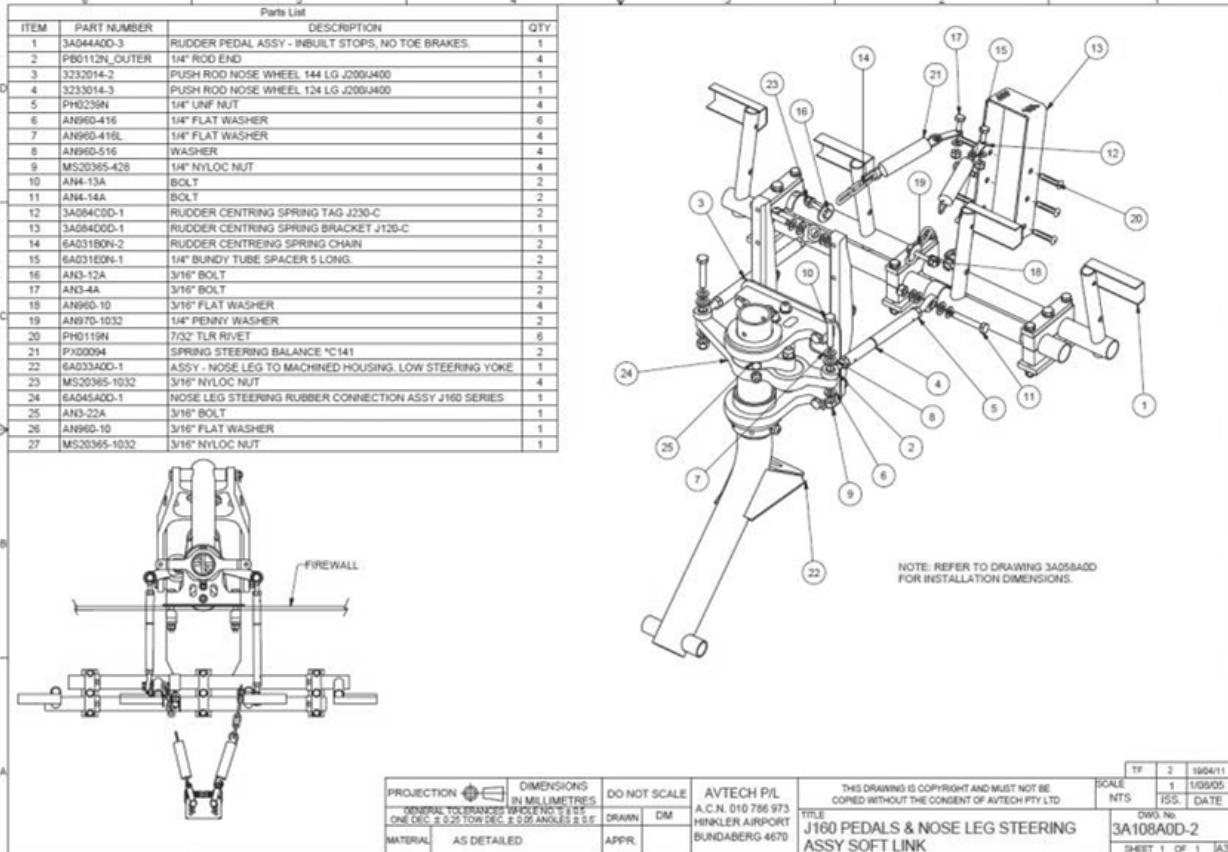

Figure 87 – Steering/Rudder Centering Assy – Type 3 (Includes Soft Link)
- The drawings shown in **Error! Reference source not found.** through to Figure 87 show several variations of the systems used.